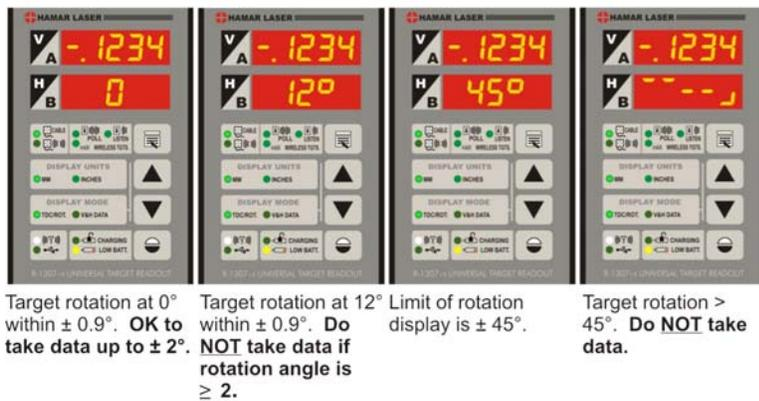

Figure 11 – R-1307 Readout TDC/ROT Mode
One way to do this is to use a level vial to keep track of the target's rotation orientation as it is inserted into the barrel. Another is to use an accelerometer inside the target housing. This example was done with the A-516, where an accelerometer supplies the rotation-axis "levelness" of the target so the user can maintain the rotation orientation of the target for each measurement point. The TDC/ROT indicator on the R-1307 lights when the target's vertical axis is at Top Dead Center (TDC). This indicates that the vertical axis is oriented to 12:00 (0 degrees). See Figure 11 for further information.
Note: Press the **Down Arrow** again to switch back and forth between the level indicator (TDC Mode) and ROT Degrees Mode (see Figure 11). Press the **UP Arrow** to return it to H&V mode.
- Slowly rotate the target by pushing and pulling the target and rotating the pole until the **H** display shows the target to be at ± 1 degrees or the TDC indicator displays “0” or “-|” or “|-“ (see the top left and second left screens in Figure 11). Take the data point by pressing the spacebar or clicking **Record** in Bore9.